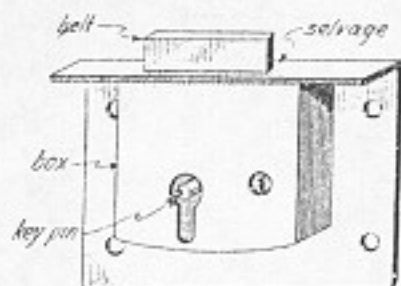

Fig. 301. Rim lock.
2. The main parts of a lock are the bolt, which is an iron bar moved forward or backward with a key, the lock box which contains the tumblers, springs, and other mechanism, the key pin, and the selvage, which is the edge of the lock through which the bolt moves (Fig. 301). Some locks are furnished with a metal plate called the strike. This strike is screwed to the frame opposite the lock, and has an opening through which the bolt enters when in a locked position (Fig. 302).
3. The two most common types of cabinet locks are the mortise lock (Fig. 302), which is completely set into the wood so that the selvage is flush with the surface, and the rim lock which is attached to the rear face and edge of the door or drawer (Fig. 301).
4. Some rim locks have no selvage (Fig. 304). These are simply screwed to the wood surface, which is not cut because the lock box is on the outside. Others have a selvage (Fig. 301) which must be set flush with the wood. An opening must also be chiseled for the lock box of this type of lock.
5. If a rim lock is to be attached, the dimensions of the lock box are marked on the inside surface of the wood around the hole bored for the key pin. Then this recess is chiseled out. *The key pin is not always in the center of the lock box* (Fig. 301).